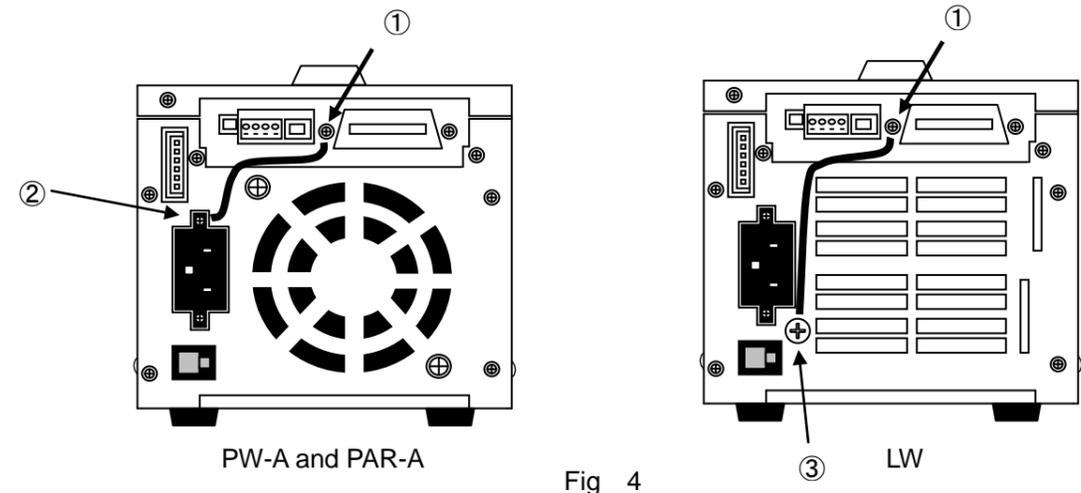

Fig. 4
- (1) Loosen the screw ① on the side of the GP-IB connector shown in Fig. 4 with a large-size flathead screwdriver. Insert the Y terminal, and fix it.